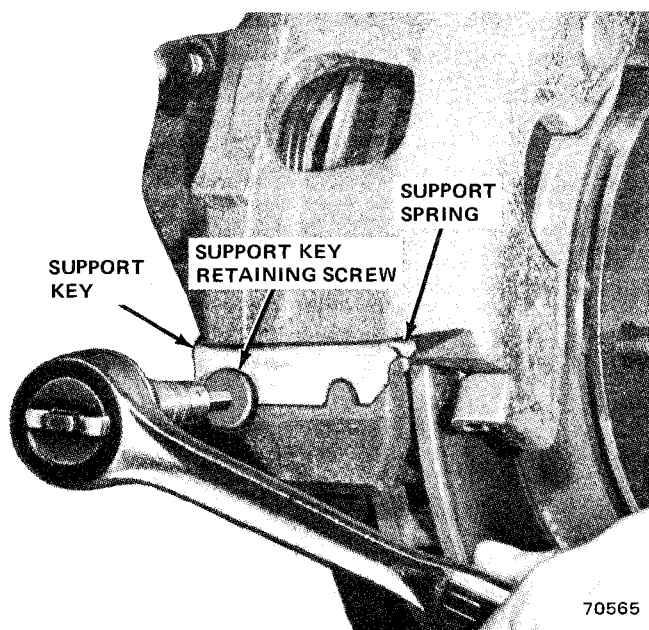

Fig. 2G-43 Support Key Retaining Screw Removal
(7) Remove caliper support key and spring using punch and hammer (fig. 2G-44).